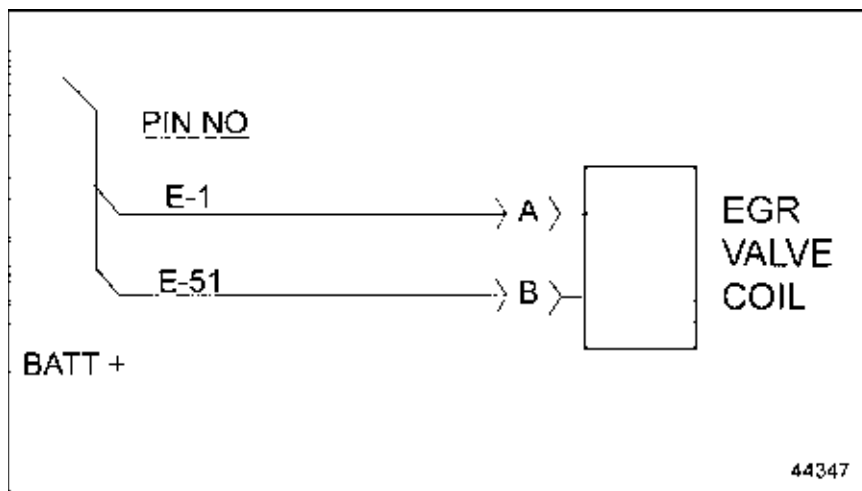

Figure 9-1 EGR Valve Coil Wiring
3. Measure the coil resistance between pins A and B. See Figure 9-1 for pin locations and compare the measured ohm values to the ohm values listed in Table 9-29-2.